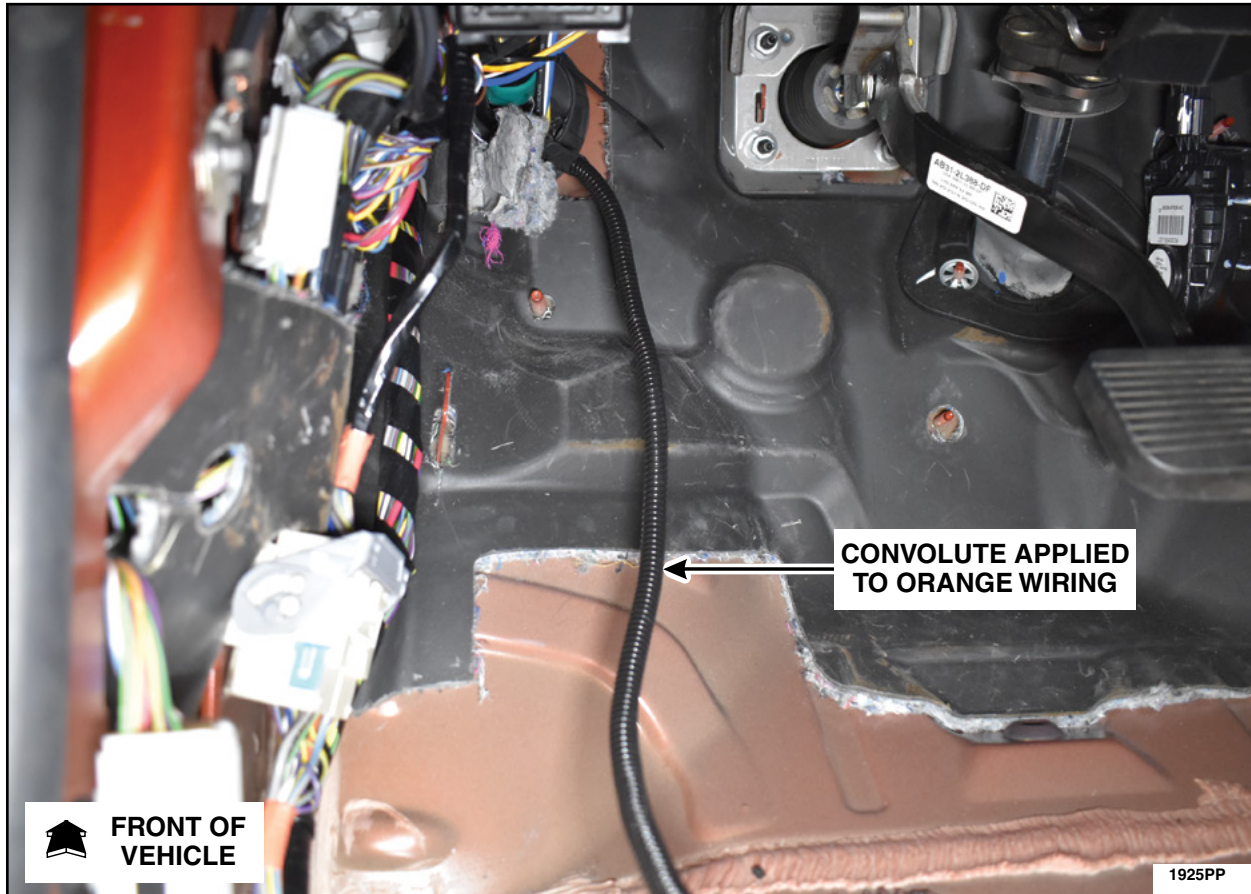

FIGURE 27
29. Locally obtain 1/4" (6.35 mm) diameter automotive convolute tubing 8 feet (2.4 m) in length. Apply the convolute to the orange wiring. See Figure 27.